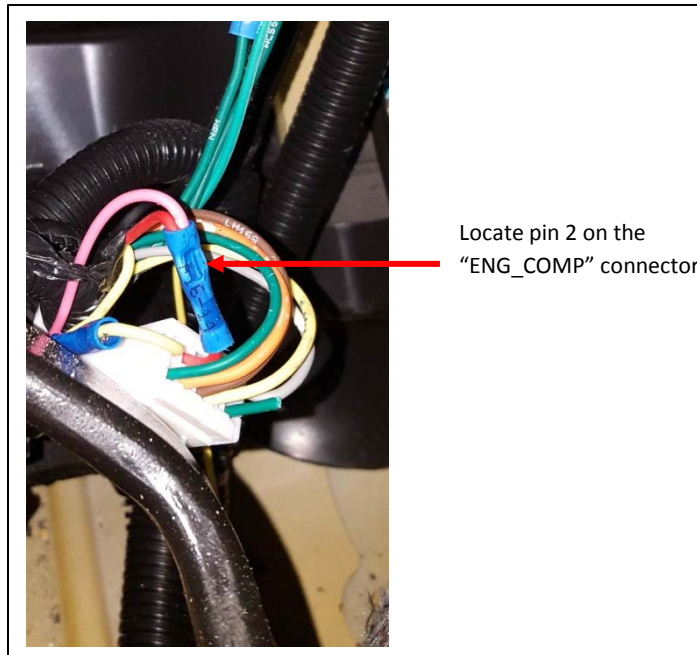

Figure 8, Ignition wire connection
- 15. Locate the ENG_COMP plug under the floor covering and cut the red wire in location 2 on the plug. Cut and splice the pink (IGN) wire from the harness to this wire as shown in **Figure 8**. Remove excess Ignition wire (pink).